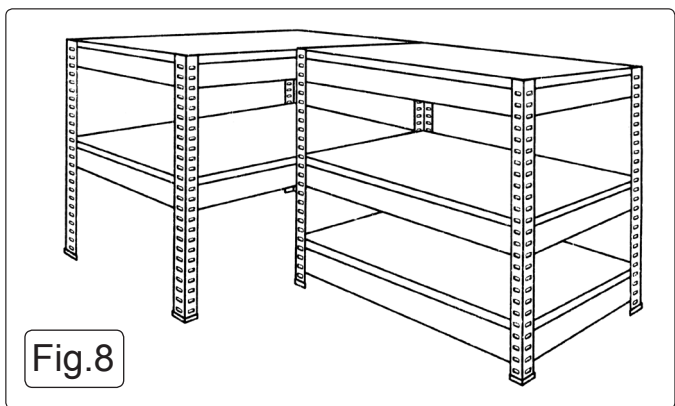

Fig.8
4.9 See Fig.8. To assemble as a corner unit make up two separate frames following steps 4.1 to 4.3 but with different shelving positions. Make up one frame with 3 shelves and one frame with two shelves as shown below. Ensure that the middle and top shelves on both frames are at the same height. Fix the frames together with the four nuts and bolts supplied. Place the 5 MDF shelves into position in the frames.